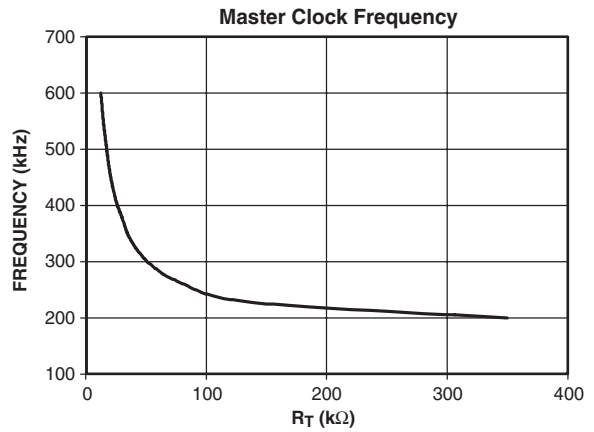

Figure 18.  $R_T$  vs. Frequency
The clock frequency on the oscillator is set using an external resistor, connected between R(T) pin and ground. The frequency follows the graph, as shown in Figure 18. The minimum clock frequency is 200KHz, which is when R(T) pin is left open. Select the value of R(T) as shown in the equation below. This equation is valid for all  $F_{OSC} > 200\text{kHz}$ .